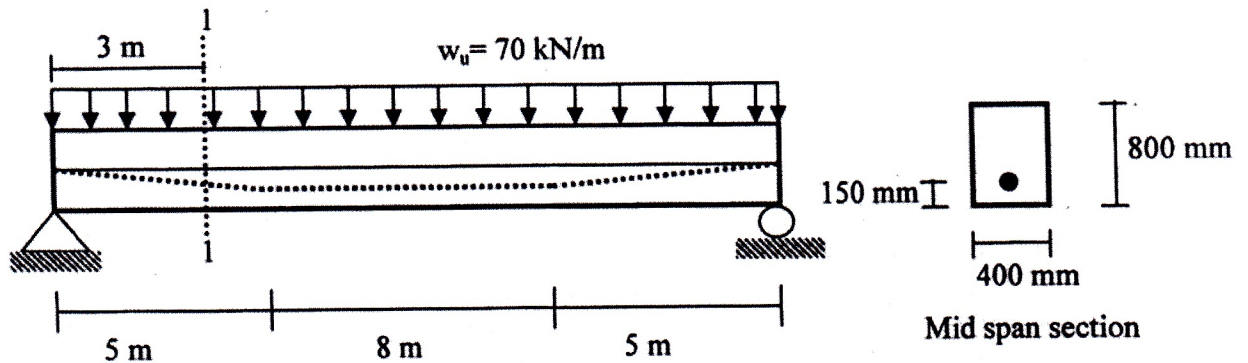

Figure: 3
4. (a) Check the shear strength for the beam shown in **Figure: 3** at section 1-1 which is 3 m from support. Given that this section is adequate for $w_u = 70 \text{ kN/m}$ on the basis of its flexural strength. (Given: $f'_c = 40 \text{ MPa}$, $f_{se} = 1100 \text{ MPa}$, $A_{ps} = 1760 \text{ mm}^2$) (15)